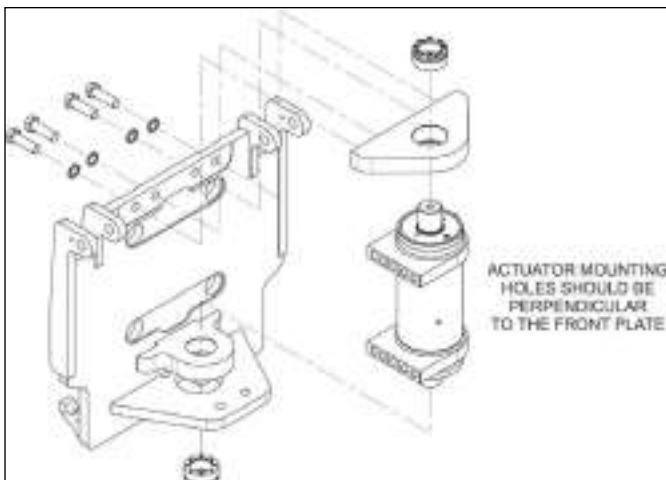

Figure 3-9: Rotation Assembly
3. Starting at the top of the assembly, carefully install the steer actuator. Align the shaft bottom through hole to the hole in the front plate weldment yoke. **See Figure 3-9**